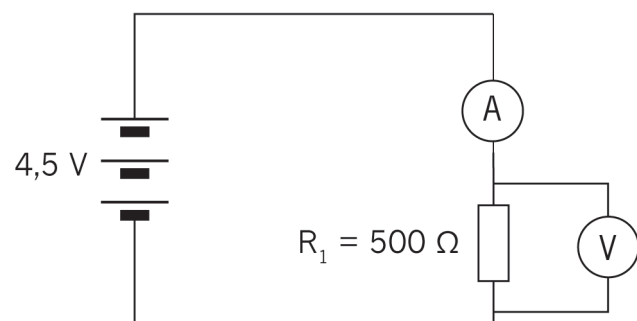

Figure 23
4. Now connect a third cell in series as shown in Figure 23.